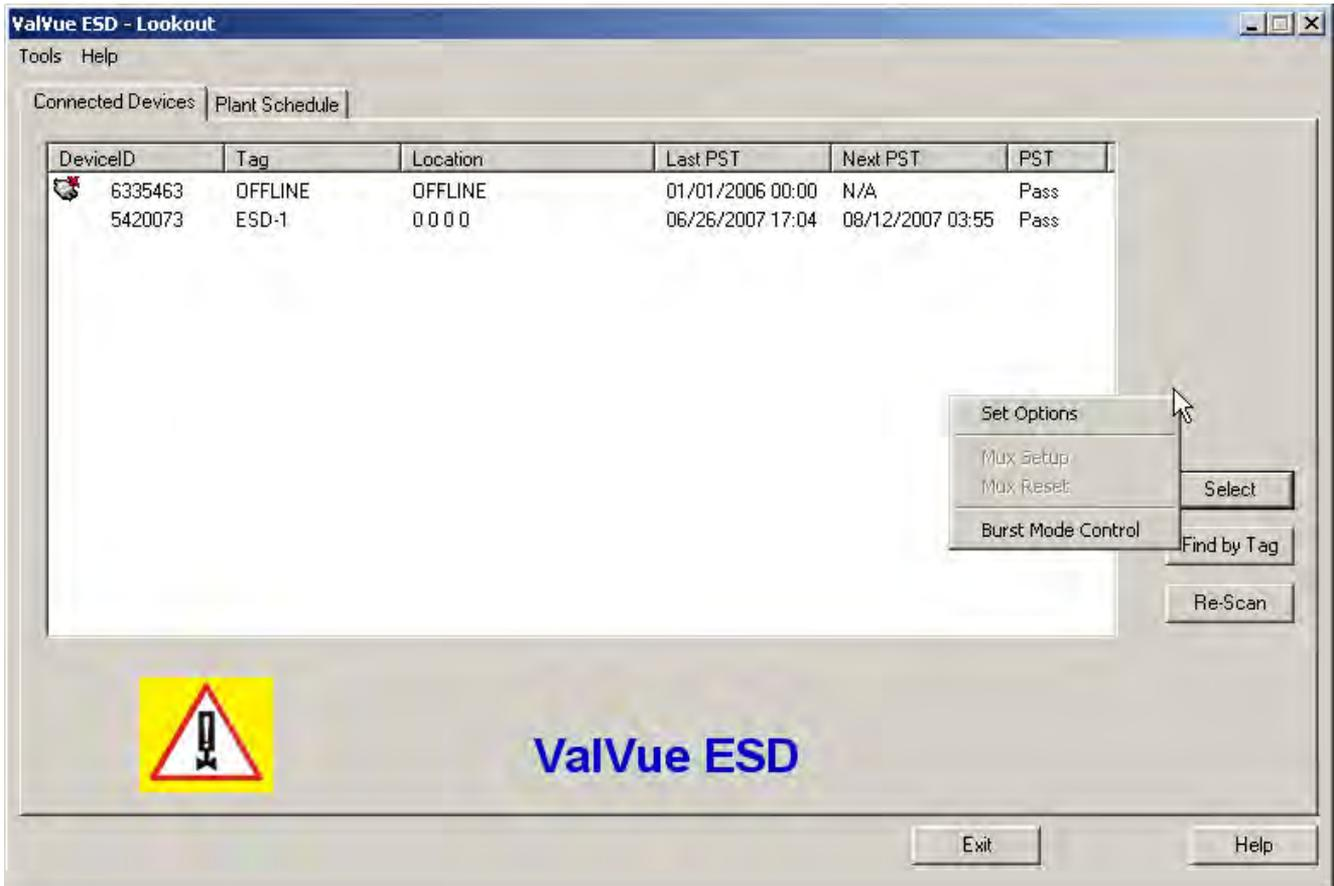

Figure 47 Launching Set Options
1. Right-click to open the context menu (Figure 47) and select **Set Options** to open the *Options* dialog.